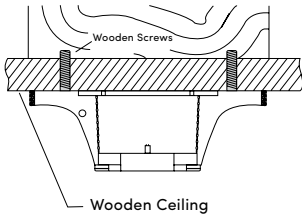

Figure 3
- 2 Wooden Ceiling** Fix the mounting bracket to the wooden ceiling with four wooden screws. The thickness of wooden ceiling must be at least 7cm. (Fig. 3)